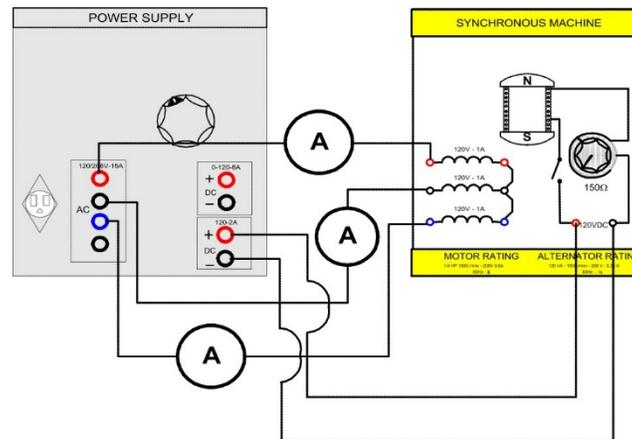

FIGURE 12.8
Step 1: Because of its constant running speed, the synchronous motor will be used to mechanically drive the dc generator. Using your EMS Power Supply, the Data Acquisition Interface (DAI) modules in the EMS workstation and Synchronous Motor Modules, connect the circuit shown in Figure 12.8.